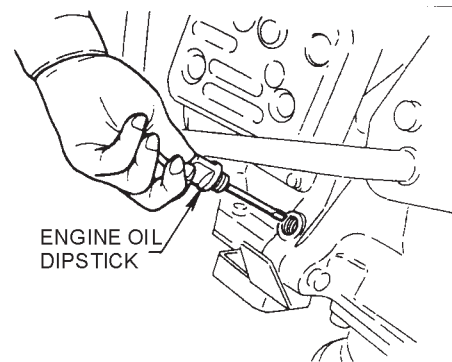
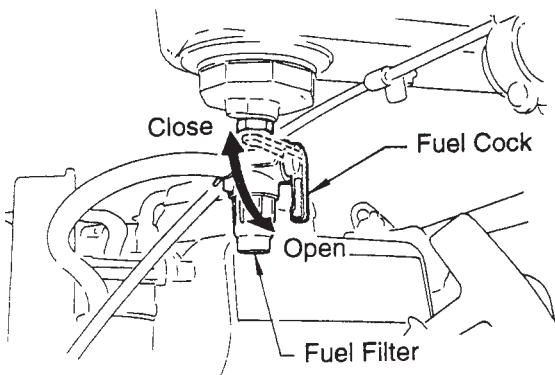

Figure 4. Engine Oil Dipstick
Figure 5. Fuel Cock
1. Open the fuel shut-off valve by moving the **fuel cock** lever to the **open** position (Figure 5) then set the engine start/stop switch (Figure 4) to the "**START**" position.
2. Close the fuel shut-off valve by moving the fuel cock lever to the **CLOSED** position. See Figure 5.